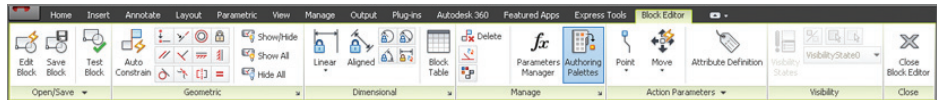

FIGURE 7.20 The Block Editor ribbon
3. A temporary tab called Block Editor appears on the ribbon, and the selected block (desk) fills the drawing canvas. Click the Authoring Palettes tool on the Manage panel to toggle them off because they are not needed for this exercise (see Figure 7.20).